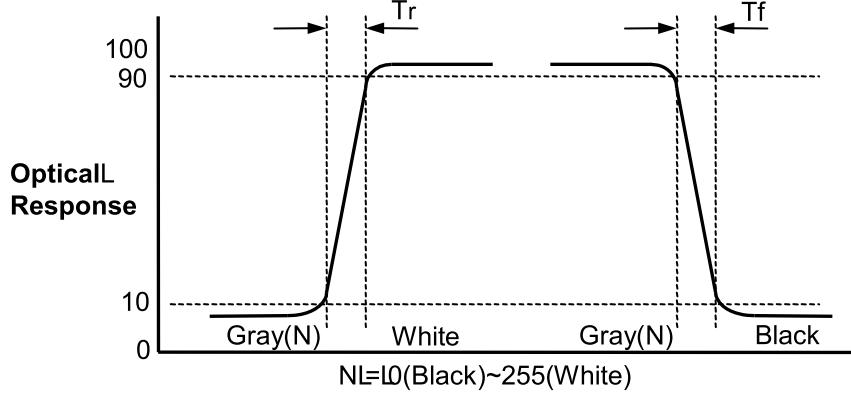

FIG.13 Response Time
4. Response time is the time required for the display to transit from any gray to white (Rise Time, t_{r_R}) and from any gray to black (Decay time, t_{r_D}). For additional information, see FIG.13.